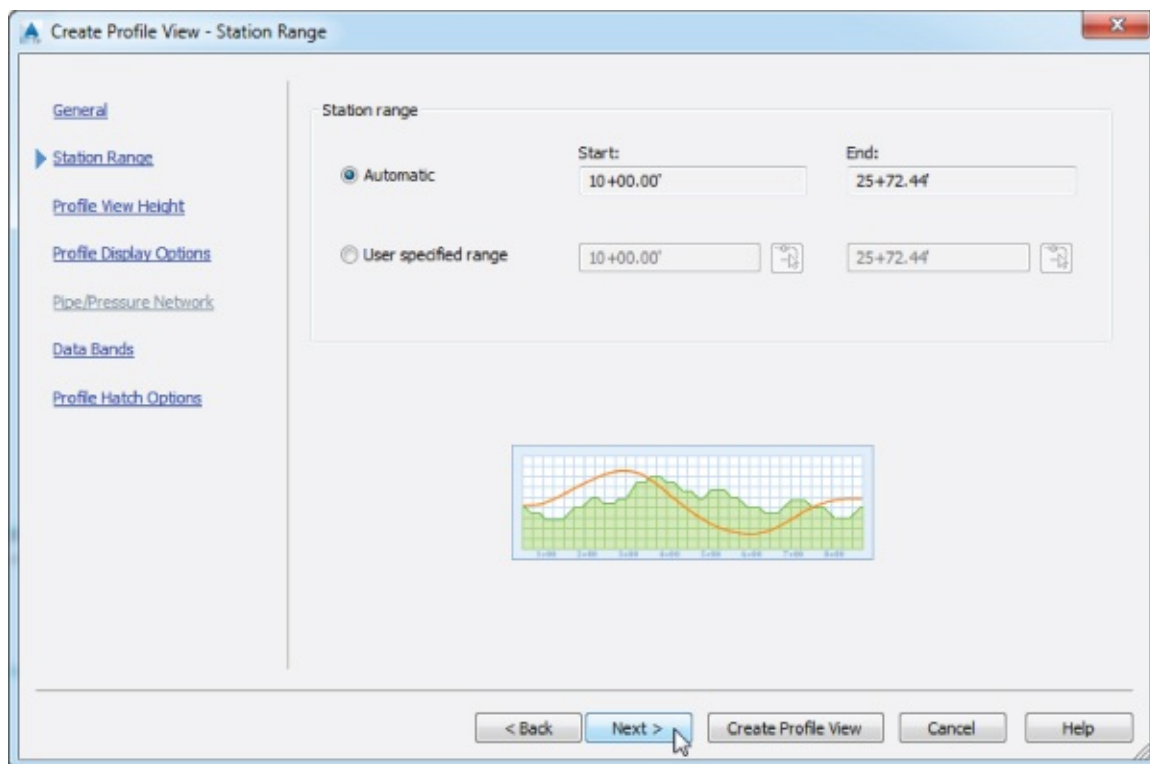

Figure 7.6 The Create Profile View – Station Range wizard page
14. On the Create Profile View – Station Range wizard page, verify that the Automatic option has been selected (Figure 7.6). Click Next.